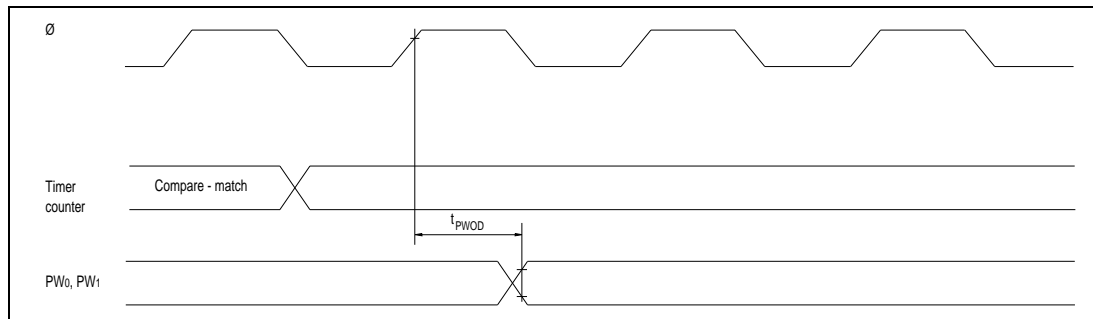

Figure 16-15. PWM Timer Output Timing
16.3.5 PWM Timer Timing	Figure 16-15